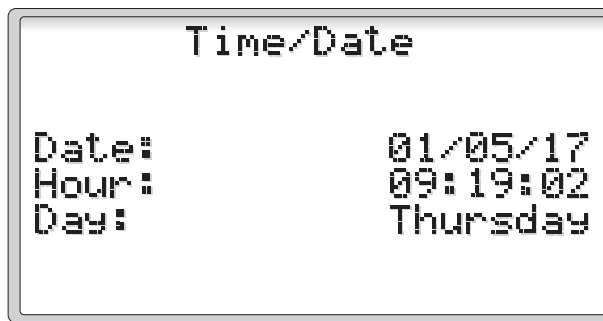

Figure 30
2.2.3.6 System Settings (Figure 30)